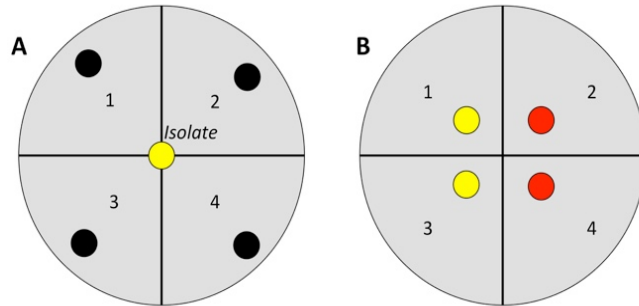

Figure 9.2. Inoculation patterns for swim agar plates.
2. You will titrate cultures into sterile saline contained in 96-well plates. Each well contains 90 μL of saline. Titrate left to right (by rows) so that the pattern on the 96-well plate matches what you are going to put on your agar plates. Use the chart in Figure 9.2 as a guide. You will need three plates for all the experiments described here (see Figure 9.3 for a recommended plating scheme).
Figure 9.2. Spot titer plating. A culture is first diluted 100-fold into sterile saline (A), then sequentially diluted 4 times in a 96-well plate (B and C) before being "spotted" onto an agar plate (D).